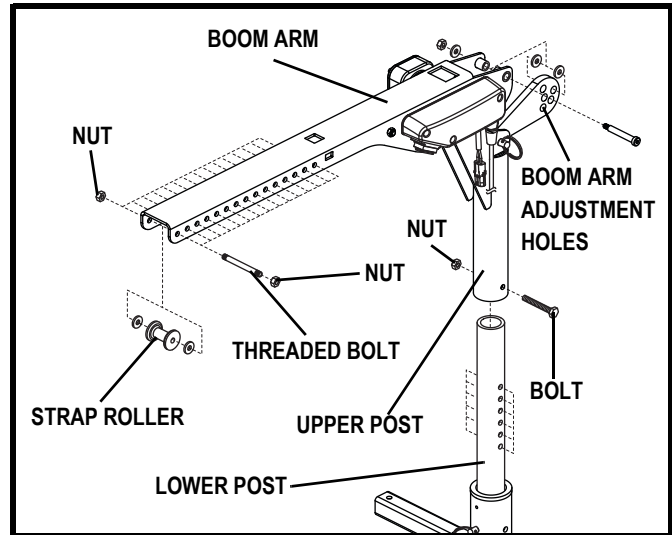

Figure 1. Upper Post Adjustment
The boom-arm can be adjusted for your convenience. See figure 1.
1. Remove the nut and bolt from the upper post. See figure 1.
1. Remove the nuts from the threaded bolt that secure the strap to the boom arm. See figure 1.
2. Roll the strap to the desired position, aligning the strap roller with the desired adjustment hole in the boom arm. See figure 1.
**NOTE:** The angle of the boom arm can be adjusted to accommodate certain height limitations. See figure 1.